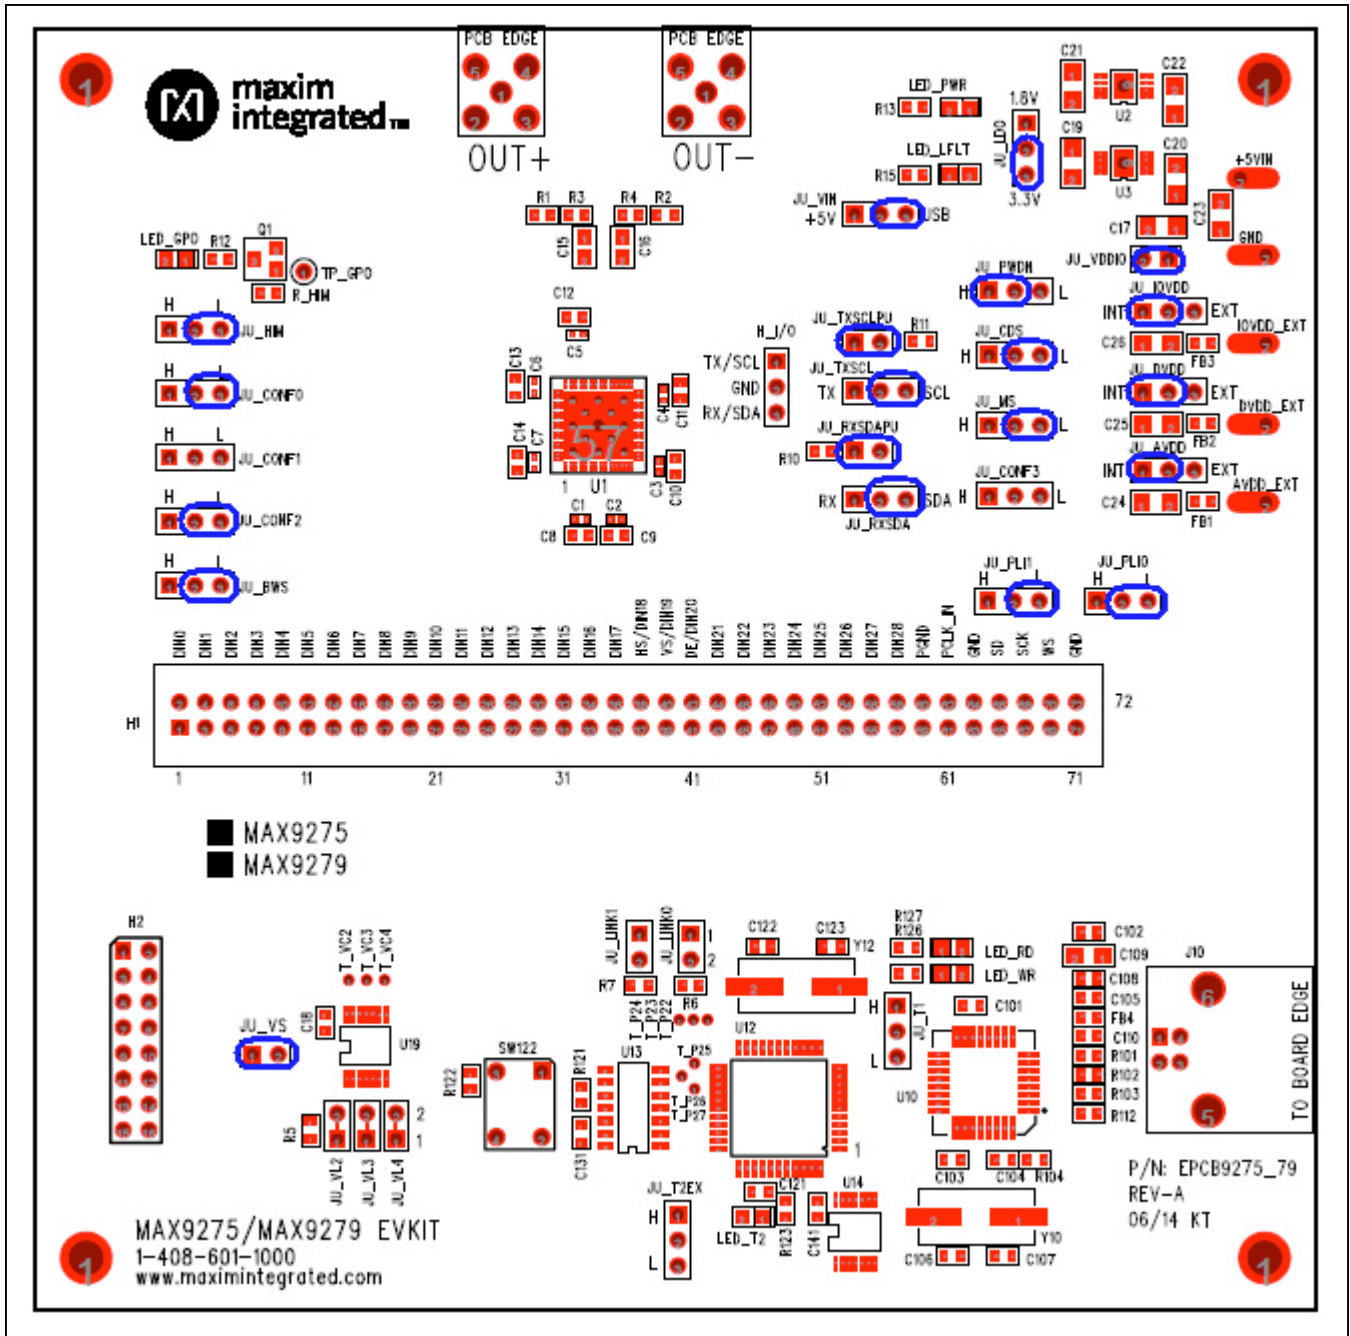
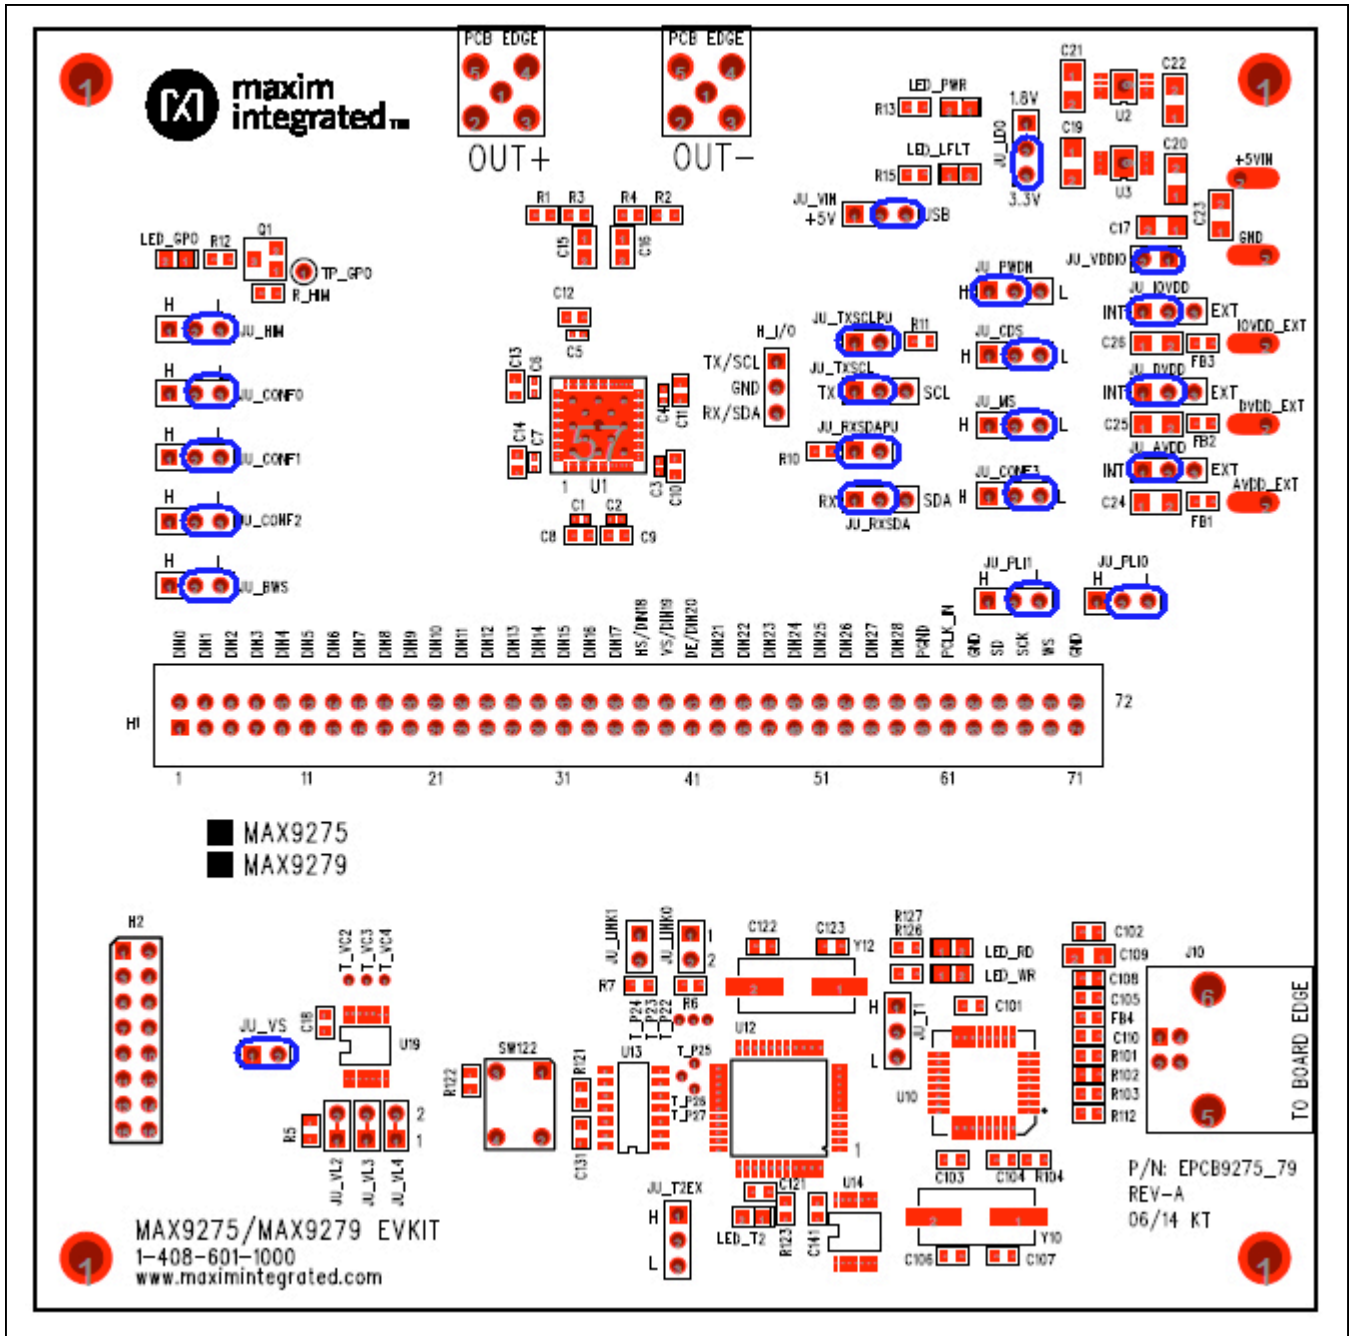
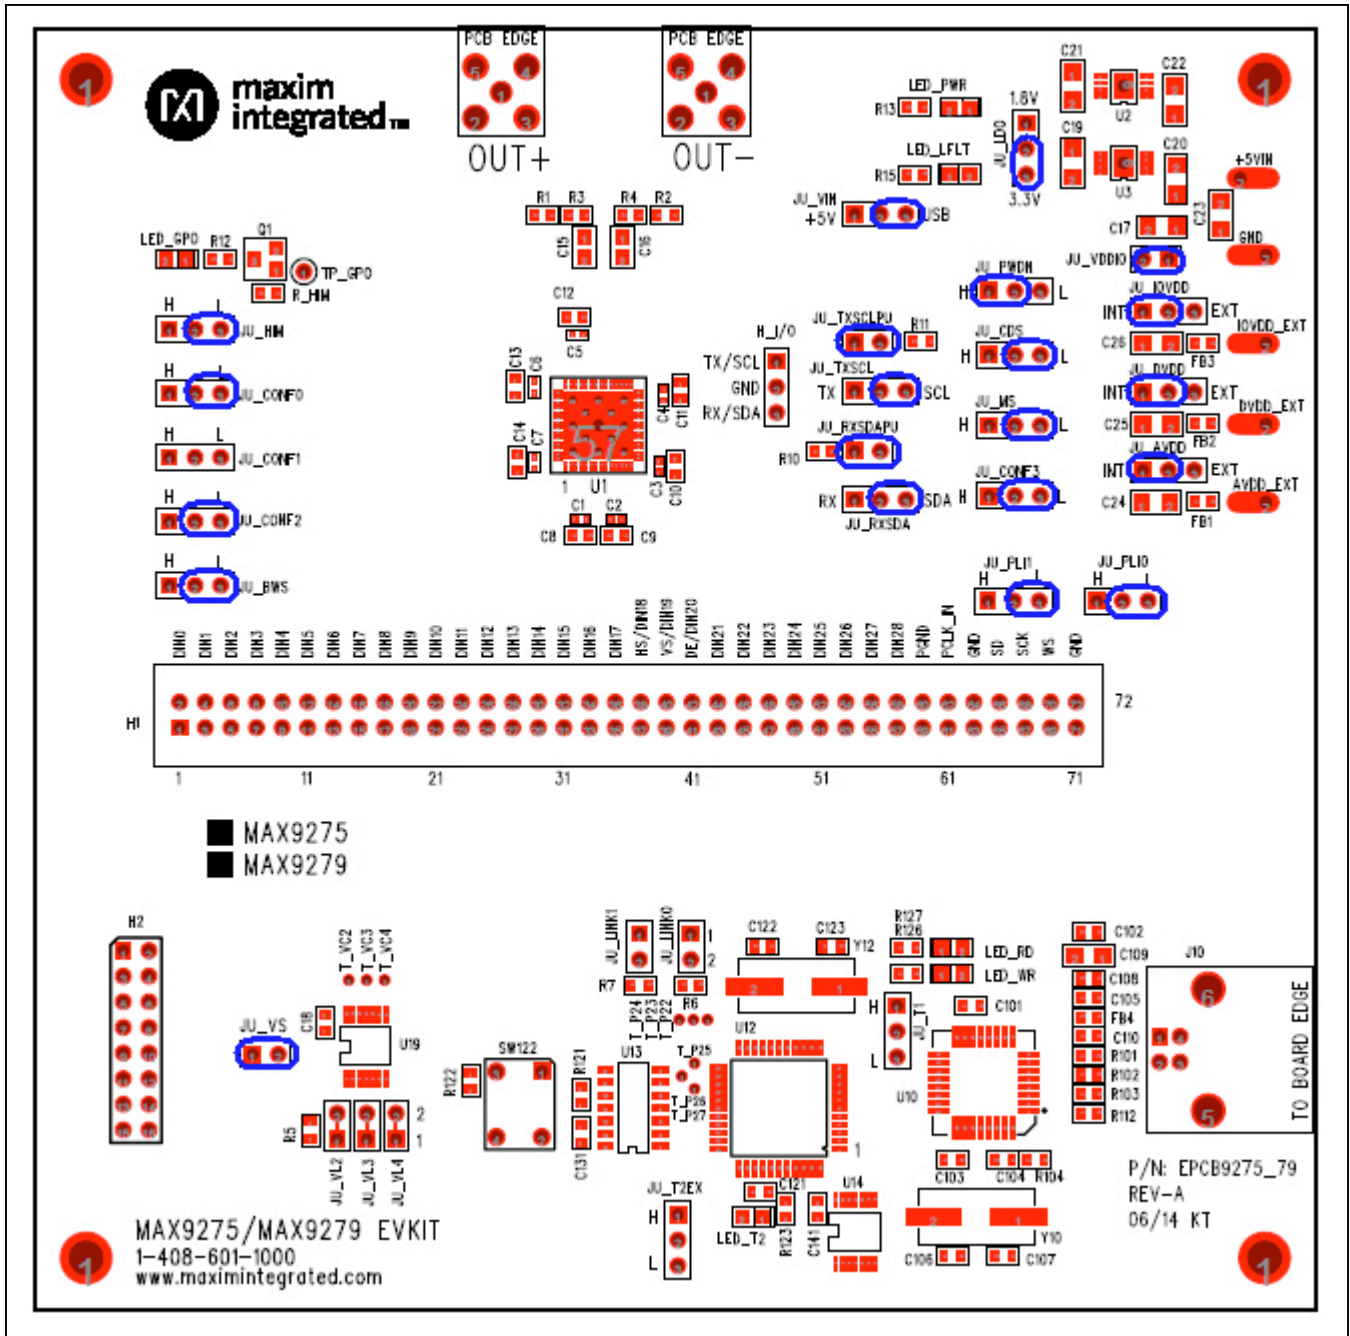

Figure 8. Initial Serializer Jumper Settings for Coax/I²C Mode
Figure 10. Serializer Jumper Settings for STP/UART Mode
Figure 11. Serializer Jumper Settings for STP/I2C Mode
- 2) Verify that all serializer jumpers are in their default positions, as shown in Table 1 and Figure 8, and deserializer jumpers are set, as shown in Figure 12.
The **Identify Devices** button causes the GUI to scan the system and search for slave addresses selectable by the SerDes input address pins. Upon successful communication, identified **Device ID** and corresponding jumper lists are displayed on the **MAX9279 Jumper Selection** and **MAX9280/80A Jumper Selection** group boxes. The user can also manually select a device from the **Device ID** drop-down list and enter a slave address in the **Device Address** edit box. It is good practice to utilize the **Identify Devices** function and verify communication with the DUTs before attempting to **Connect**. Figure 8, Figure 9, Figure 10, Figure 11, and Figure 12 show jumper settings on the MAX9275/MAX9279 PCB for coax or STP cable and UART or I²C communication with a USB controller connected to the serializer board. Refer to the MAX9275/MAX9279 IC data sheet for detailed configuration information. See Table 1 for jumper functions and settings.